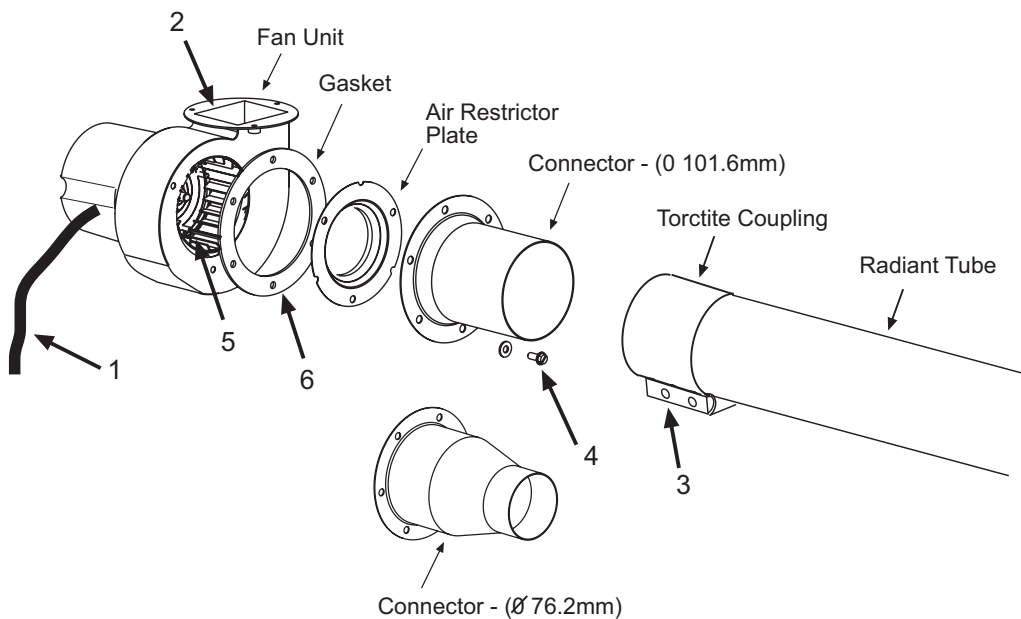

Fig. 48
6. When re-assembling the Orifice Plate and Connector, a new Gasket must be fitted between the Fan housing and Orifice Plate (see Fig. 48).